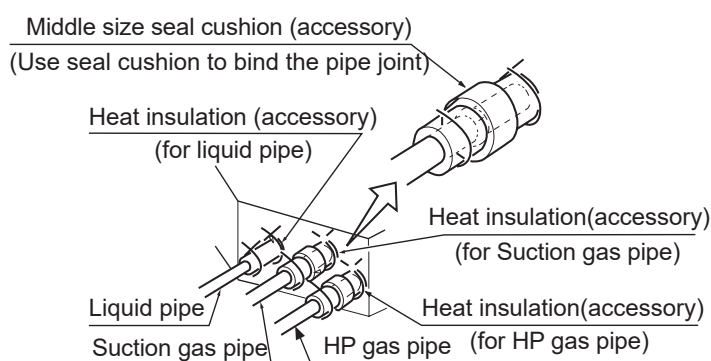

Fig.8
- Check the connecting pipes for gas leakage and then fix the thermal insulation, as shown in the Fig.8